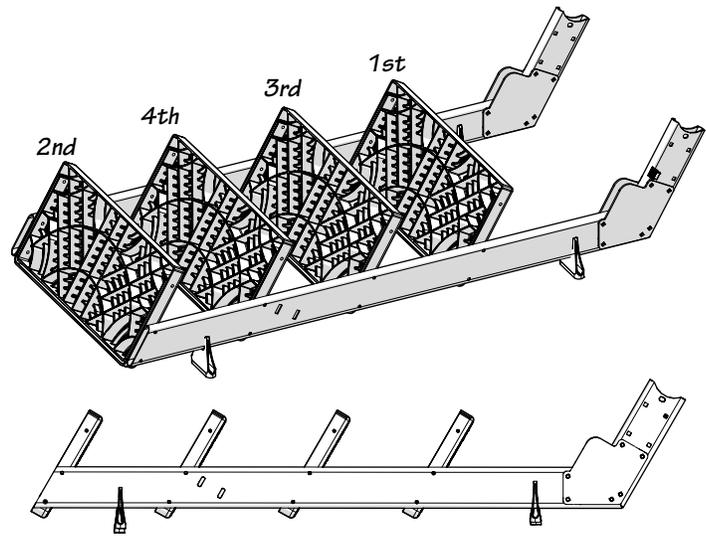

Fig. 6-1
- Follow the simple illustration is shown right in Fig. 6-1.